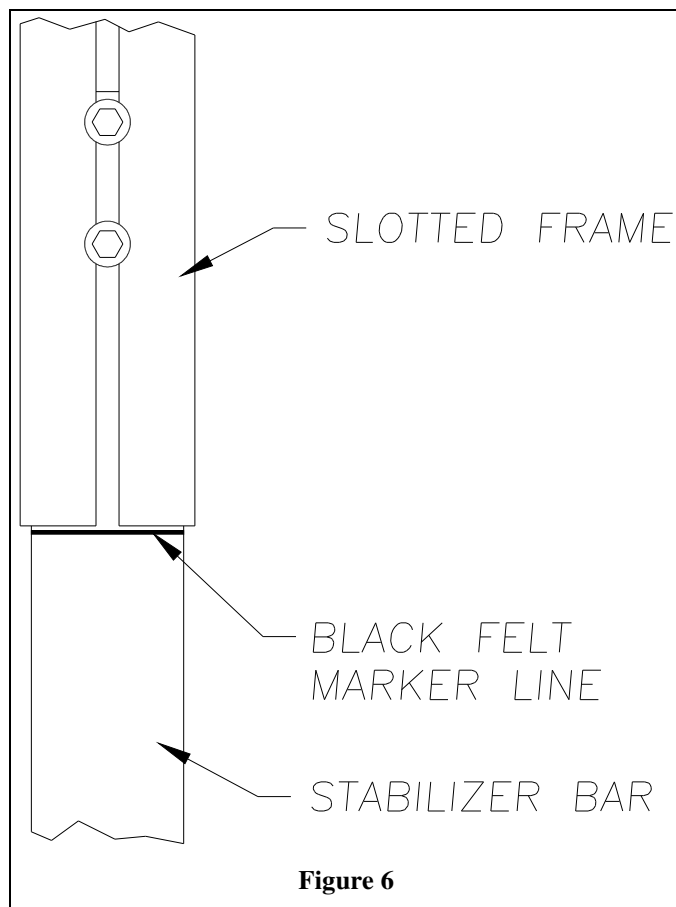

Figure 6
1. A black felt marker line on the stabilizer bar shows just below the bottom edge of the slotted frame, (See Fig. 6) and/or